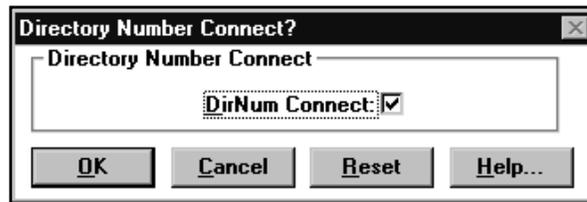

FIGURE 97. Example of Directory Number Connect dialog box
1. To connect to a directory number automatically upon pressing the **Start** key, select DirNum Connect in the configuration window. (See Figure 97.)